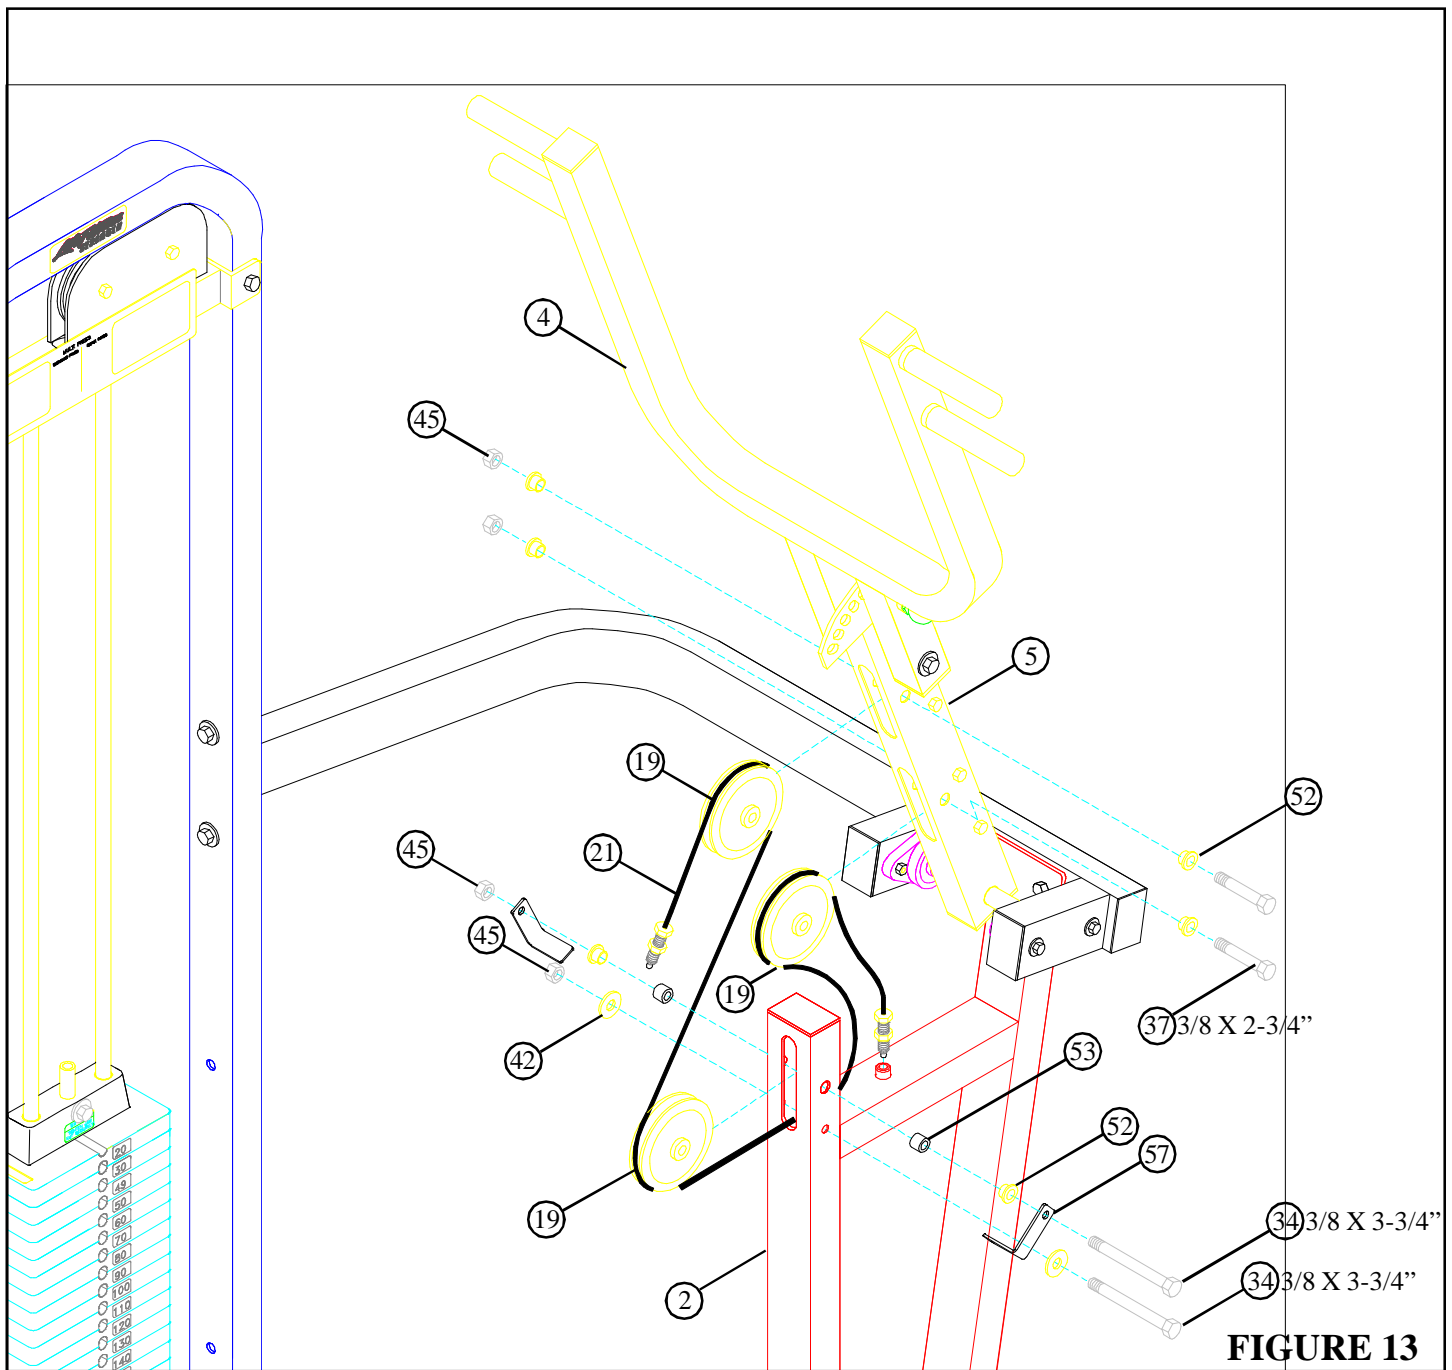

FIGURE 13
- **SECURELY** assemble one of the threaded ends of the CABLE (21) 3/4 of the way into the threaded post on the PRESS BASE (2) as shown in FIGURE 13.
- Wrap the CABLE (21) around one 4-1/2" PULLEY (19) and **SECURELY** assemble the pulley to the **REAR** slot of the PRESS ARM ADJUST (5) using one 3/8 X 2-3/4" BOLT (37), two 3/8" FLANGE SPACERS (52), and one 3/8" LOCK NUT (45) as shown in FIGURE 13. (NOTE: Loop the cable over the pulley prior to inserting it into the slot.)
- Route CABLE (21) through the slot in the PRESS BASE (2) then **SECURELY** assemble one 4-1/2" PULLEY (19) to the PRESS BASE (2) using two 3/8 X 3-3/4" BOLTS (34), two 3/8" FLANGE SPACERS (52), two 2-7/8 X 2-1/4" CABLE CLIPS (2), two 1/2" SPACERS (53), two 3/8" WASHERS (42), and two 3/8" LOCK NUT (45) as shown in FIGURE 13. (NOTE: Make sure the cable is in the groove of the pulley and over the top of the retaining bolt before tightening it.) (NOTE: Position CABLE CLIPS as shown.)
- Wrap the CABLE (21) around one 4-1/2" PULLEY (19) and **SECURELY** assemble the pulley to the **FRONT** slot of the PRESS ARM ADJUST (5) using one 3/8 X 2-3/4" BOLT (37), two 3/8" FLANGE SPACERS (52), and one 3/8" LOCK NUT (45) as shown in FIGURE 13. (NOTE: Loop the cable over the pulley prior to inserting it into the slot.)